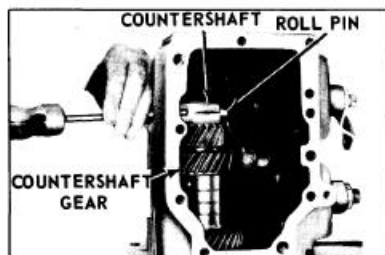

Figure 4-5—Removing Countershaft Retaining Pin
5. Through filler plug hole drive out countershaft to case retaining pin. See Figure 4-5.